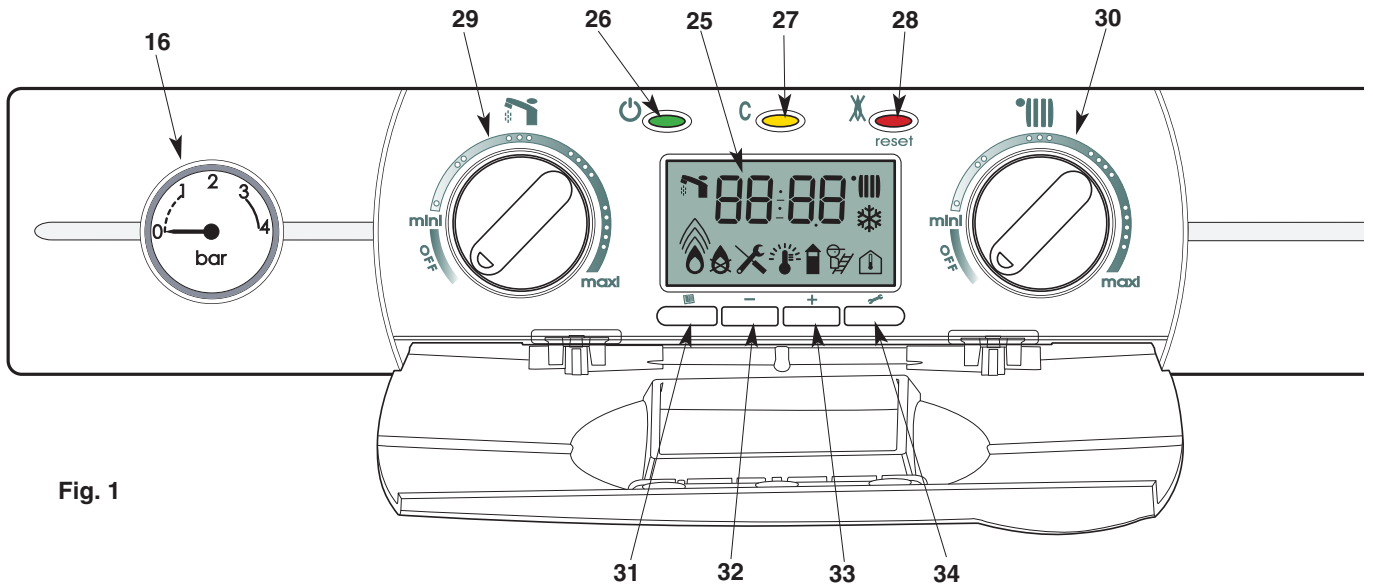

Fig. 1
### Control panel (Fig. 1)
1. Check the pressure in the central heating system is above 0.7 bar and below 1.5 bar with the pressure gauge **16** (fig.1), should it be necessary to re-pressurise the system, ensure the filling loop **45** (fig. 2) is attached, open the filling taps **43** & **44**, the pressure gauge will now start to rise, once the pressure reads 1.0 bar, close the filling taps and disconnect the filling loop.